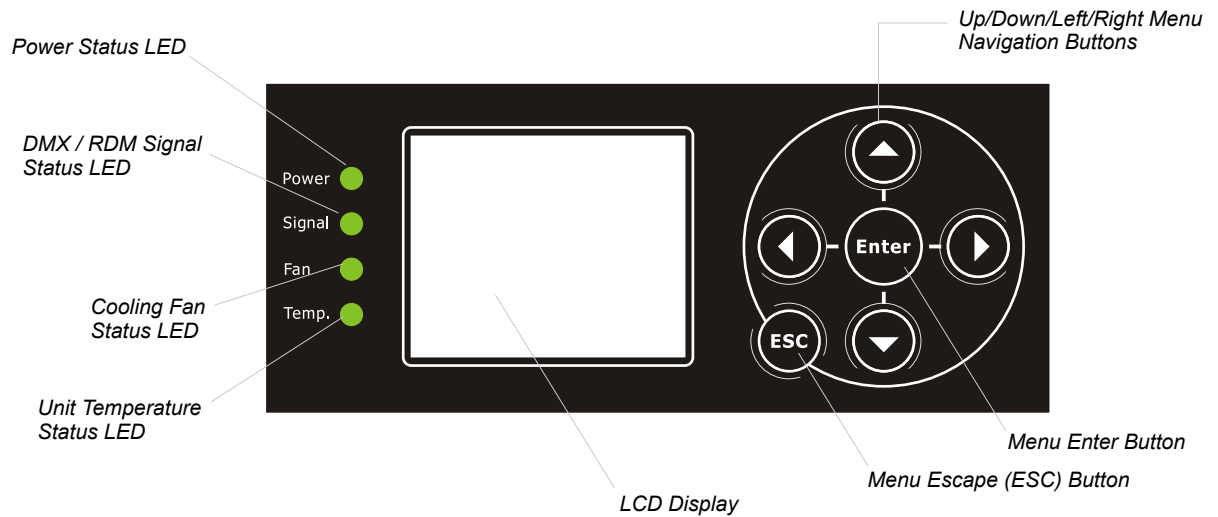

Figure 4: Menu System and Status Indicators
Figure 4 shows the on-board menu system user interface.
To the left of the luminaire LCD display are four (4) LED indicator lights for quick status information of the luminaire. Table 3 outlines the LED status indicators (as illustrated in Figure 4) and their meaning.